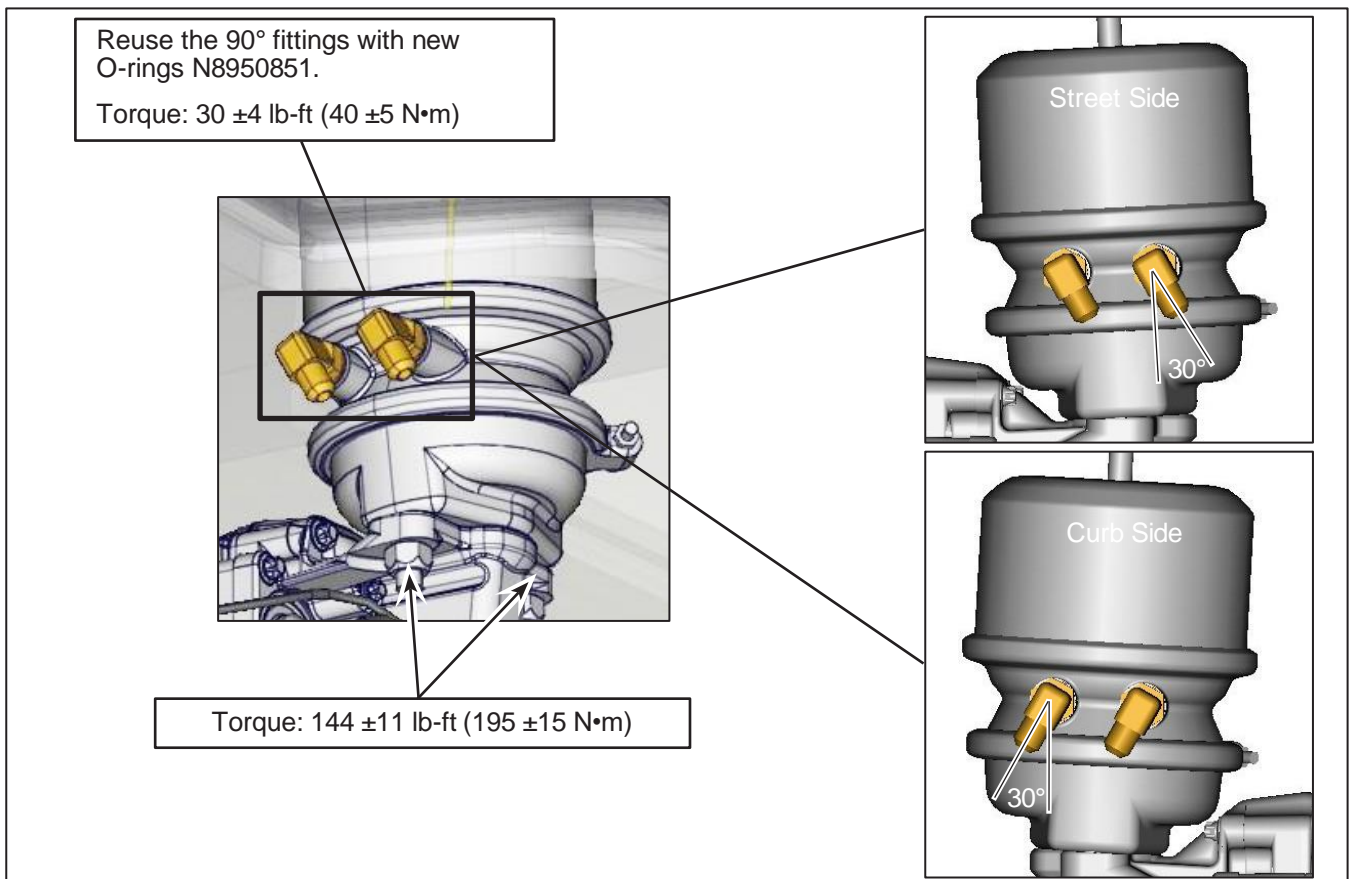

Figure 5 - Brake Chambers and 90° Fittings Installation
- 2.10. Install the new brake chamber in place with the new nuts provided in the kit and tighten to  $144 \pm 11$  lb-ft ( $195 \pm 15$  N•m ) (Figure 5). Apply torque seal. **Note: do not use impact tools, only hand tools.**
- 2.13. Install the two 90° fittings on the new brake chamber, respecting the angle of the original installation and tighten to  $30 \pm 4$  lb-ft ( $40 \pm 5$  N•m ) (Figure 5). Apply torque seal.